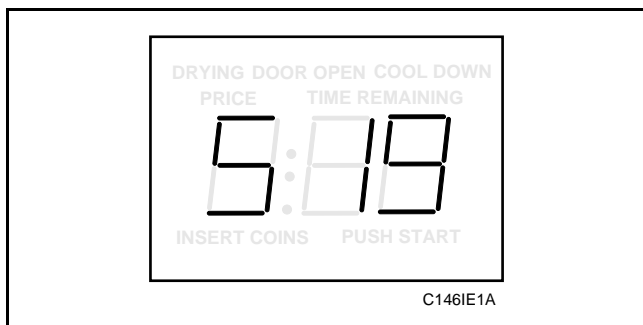

Figure 52
2. While pressing and holding the HIGH TEMP pad with one hand, press the MED TEMP pad with the other hand. Programmable option number 1, (Audio Signal “SIg”), will appear in the VFD, *Figure 52*.